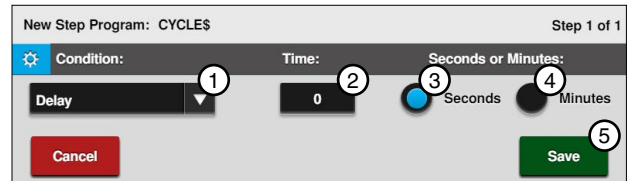

Figure 155-2 1. Delay Condition 4. Minutes
3. Program the Delay condition for this step. Refer to Figure 155-2.